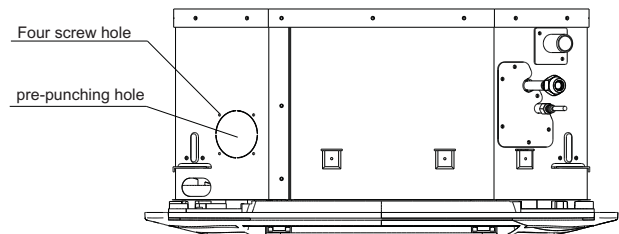

Fig.27
(3) The installation of ventilation motor and ventilation pipe (if necessary)
- a. Using a tool to knock off the pre-punching hole. (Refer to Fig.27)
- b. Four screw hole reserved for installation. (Refer to Fig.27)